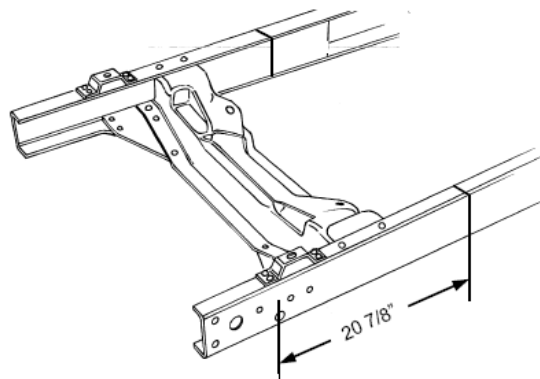

Figure2- Spindle Centerline
4. Measure back 20-7/8" from the center of the front shackle hole in the frame and scribe a line around the rail. See **Figure 2**. This scribed line is the spindle centerline.